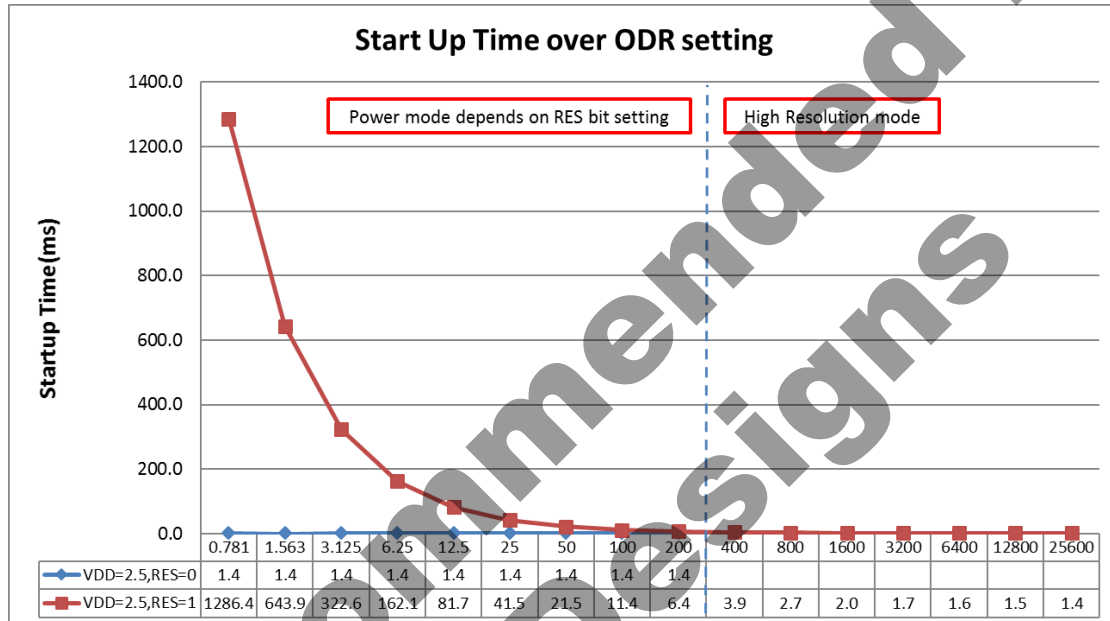

Figure 1: Start up Time as a function of the Output Data Rate (ODR) and Power Mode Settings
3. Start up time is from PC1 set to valid outputs. Time varies with Output Data Rate (ODR) and power mode setting. See Figure 1 for details.